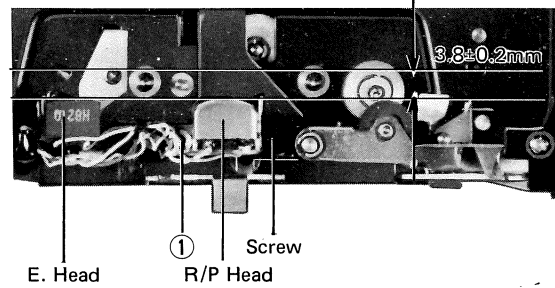

Fig. 13
The R/P and Erase heads should be positioned as shown in Fig. 13.
- 3) While playing back a test 6.3kHz tape (VTT-651) for azimuth adjustment, adjust head nut ① (Fig. 13) so that the maximum output can be obtained.
- 5) Be sure to lock the head nut ① with paint after adjustment.